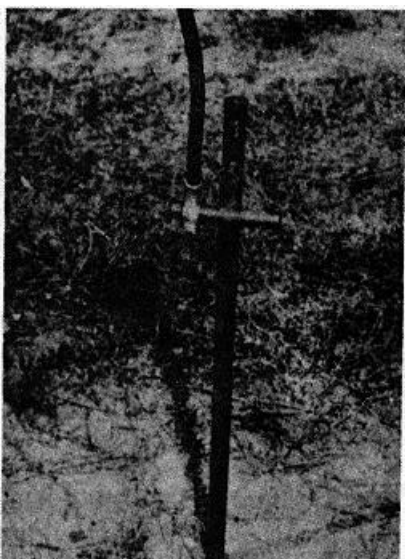

Figure 26. Installation of ground stake.
- (1) Install ground stake, located in compartment below rear doors, by fastening cable to bolt provided with wingnut, on left rear skid (fig. 26).
- (2) Position chocks.